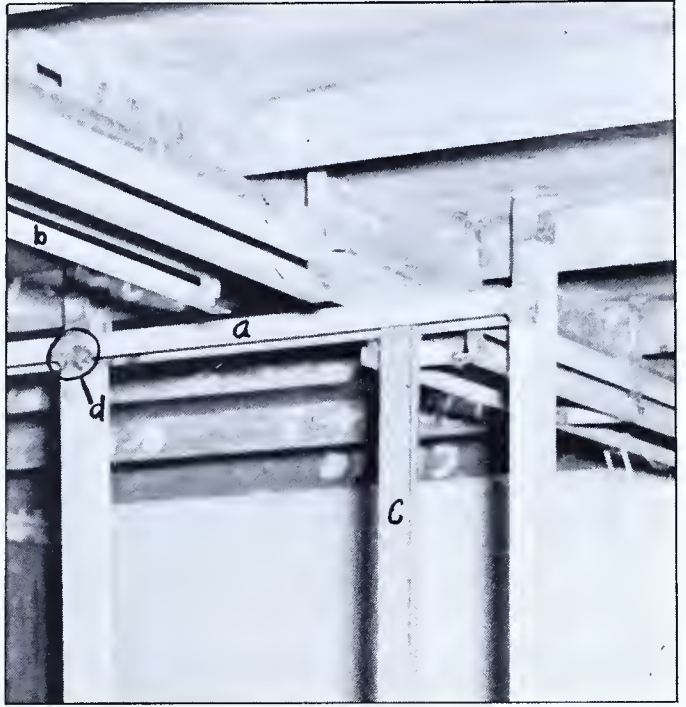

FIG. 78 — *Section Showing Intermediate Furring at "c"*
There are two kinds of overhead intermediate furring. One is a channel iron used generally to take the place of a beam for supporting panels. See Fig. 78 at "a". This channel iron is the same width as the beam used. The other type of furring is an angle iron used where a beam is in the line of a panel. See Fig. 78 at "b". The angle iron is welded to the beam.
6. Have the pieces of furring welded in place, as shown at "d", Fig. 78.